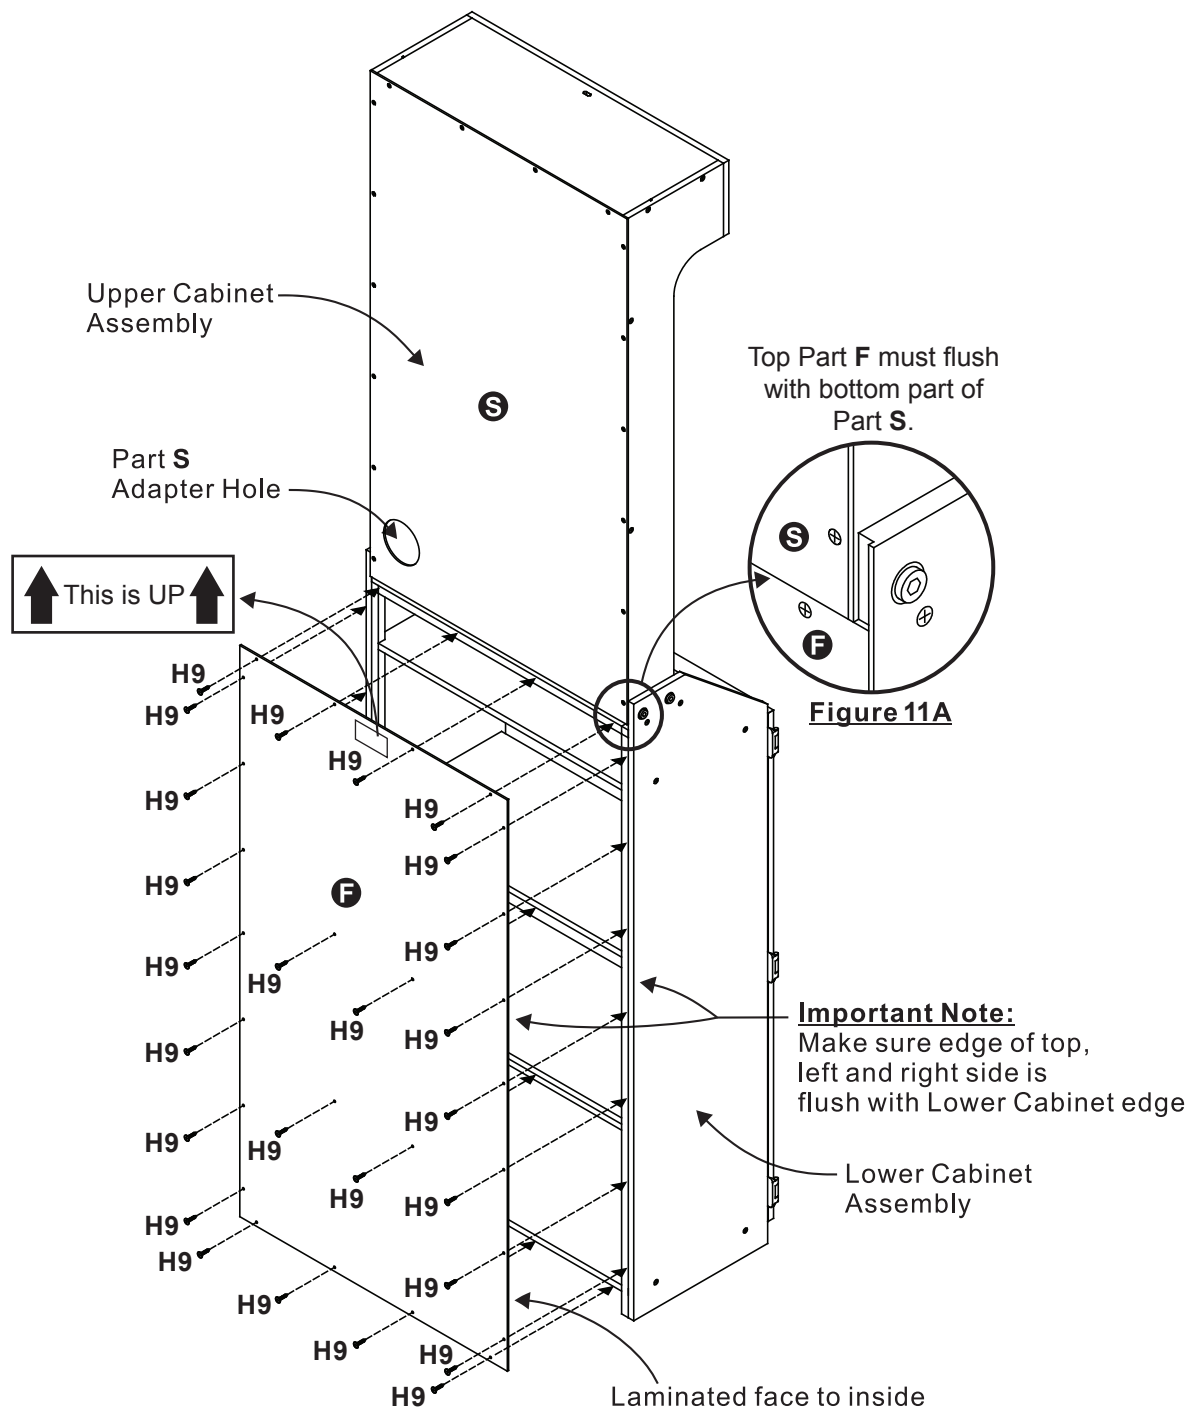

Figure 11
23. Plug in the AC adapter to the back of dartboard and pull through Adapter Hole in Part **S**. See **Figure 11**.
Stand up assembled cabinet. Attach Part **F** to back of Lower Cabinet Assembly using 26 pcs Phillips Round Head Screw (**H9**). See **Figure 11**.